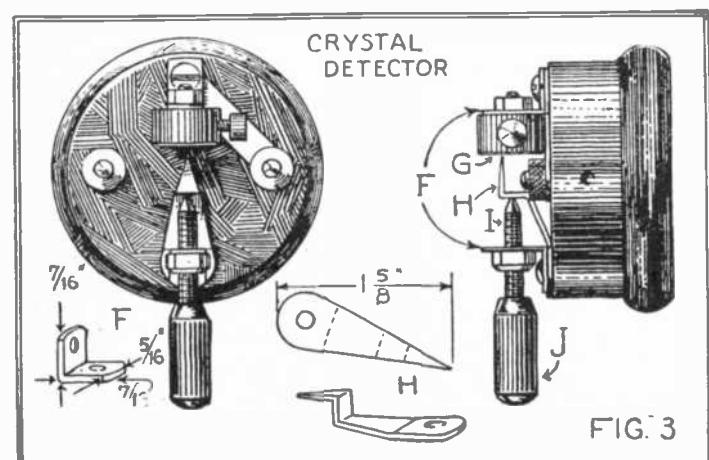

FIG. 3
The detector is mounted on the back of the composition receiver shell. Details of its construction are given in Fig. 3. Two
The phone shell is drilled as shown in Fig. 3, to take the 4/32 brass machine screws. Eighty-four brass spacing washers, .025 inch thick (outside diameter 9/32, inside diameter 4/32), are used in assembling the plates. The shaft is a 4/32 machine screw. The piece (O) is an adapter, threaded to take the shaft, and also to fit the knob (N). (M) is a brass bushing taken from the base of a binding post; it is shellaced to the phone shell (L). The dimensions of the plates will, of course, depend upon the case used.
In the operating room, a 6-volt storage battery B—a switch, S—a resistance, R1—a key, K—and a 6-volt signal lamp, L—are installed. The additions to the transmitting apparatus are a relay, R—and a home-made piece of apparatus indicated by X—. The latter is detailed in Fig. 3. It merely consists of an ordinary transmitting key and sounder mounted on a base. The key is elevated above the base by means of a large wooden